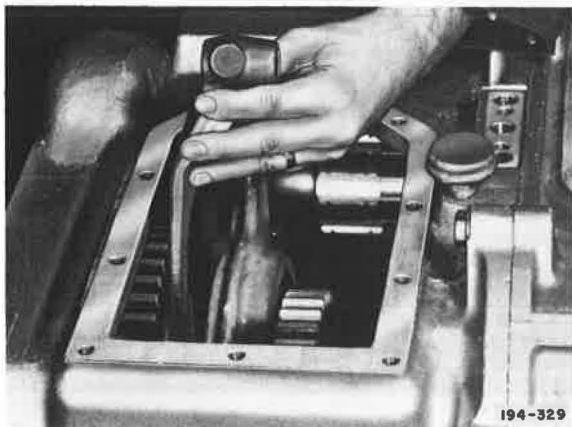

Figure 5-56. Installing Reverse Speed Shifter Fork
23. Install reverse speed fork on reverse speed sliding gear and install first speed fork on first speed sliding clutch. See Figures 5-56 and 5-57.